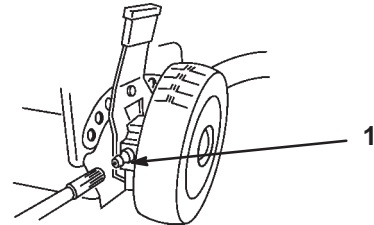

Figure 18
1. Wipe the grease fittings on the rear height-of-cut adjusters (Fig. 18) with a clean rag.